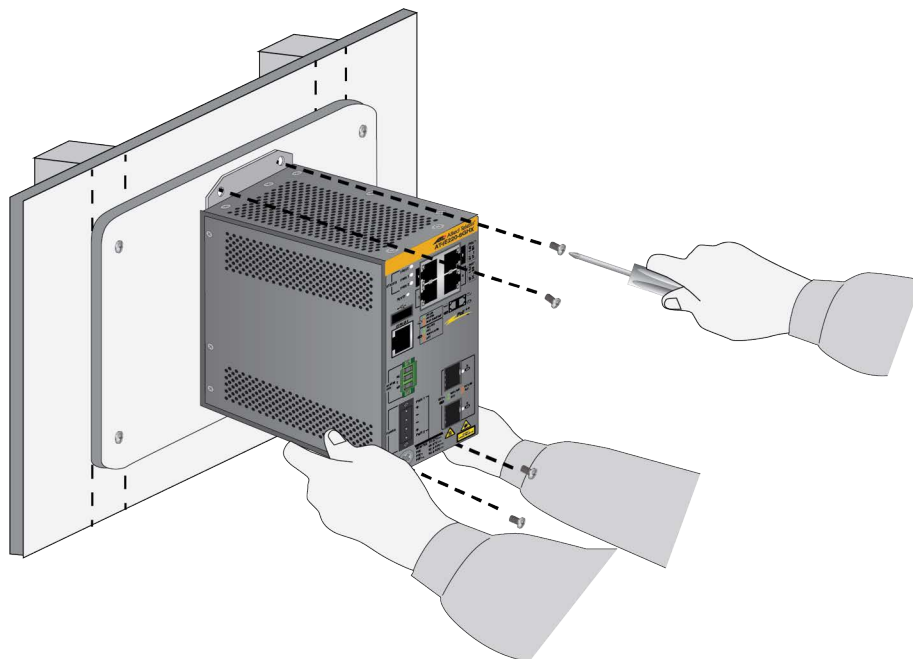

Figure 22. Attaching the Switch to the Plywood Base
5. Have another person hold the switch on the plywood base on the wall while you secure it with four screws (not provided). Refer to Figure 22 on page 72.
- The switch must be oriented as shown in Figure 22. Do not install the switch horizontally or upside-down.